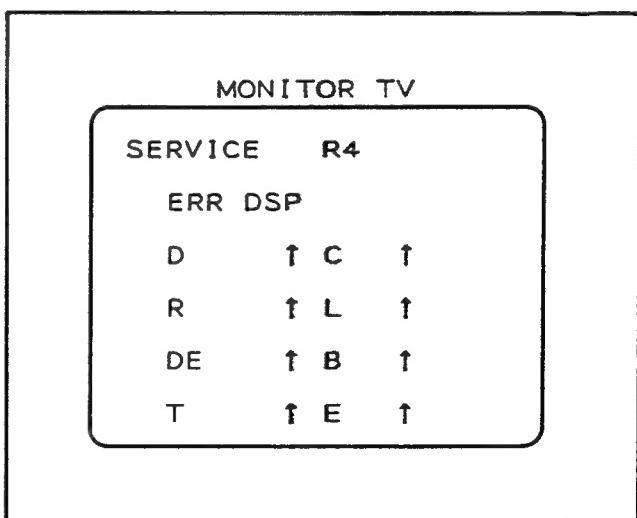

Fig. II-57
(3) R4 : Current error detection (Fig. II-57)